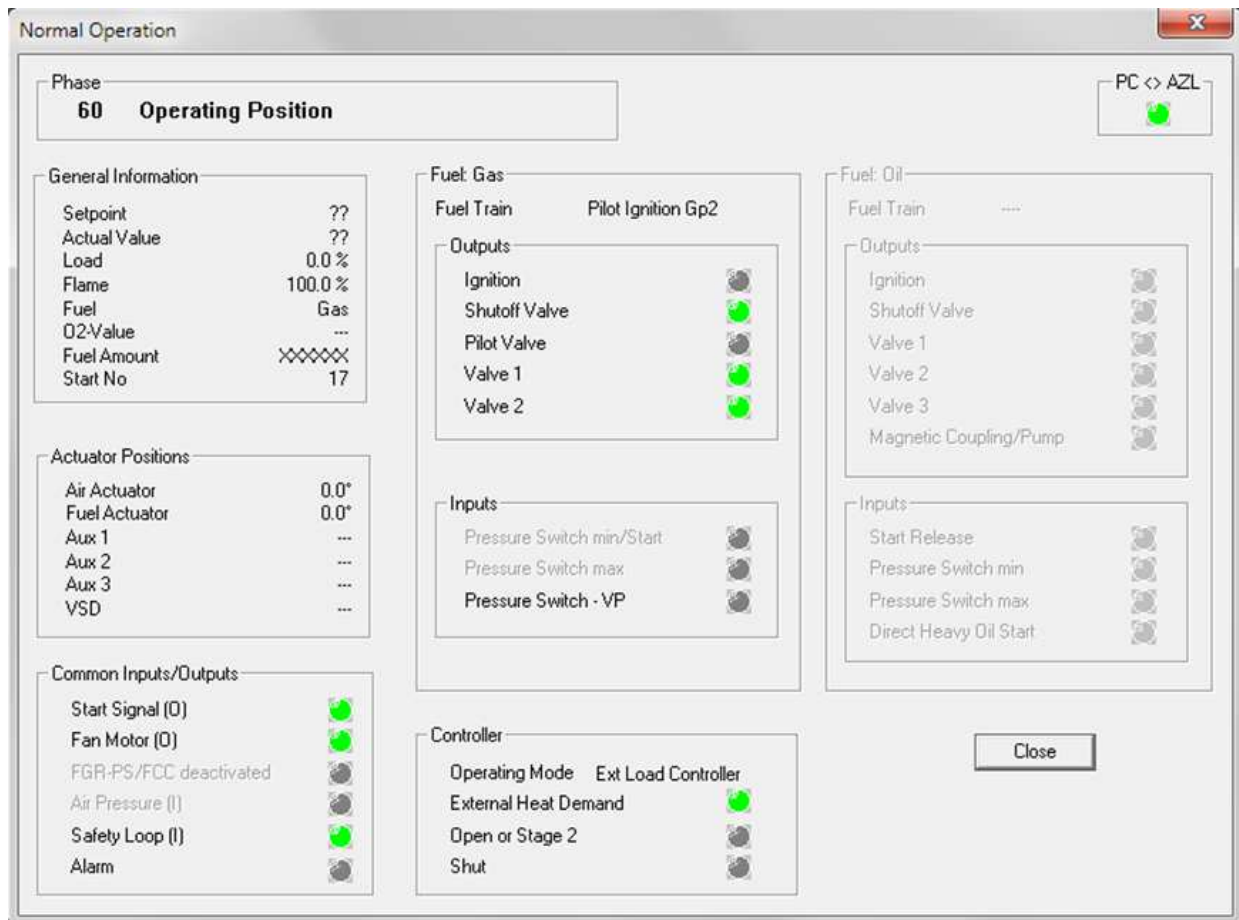

Figure 9-8.1: The ACS450 Dashboard
2. Once connected, go to the “Parameters” drop down menu, followed by the “Operating State” menu. Click on “Normal Operation”, and the dashboard should appear detailing the operating state of the LMV5. The dashboard looks like Figure 9-8.1 below.